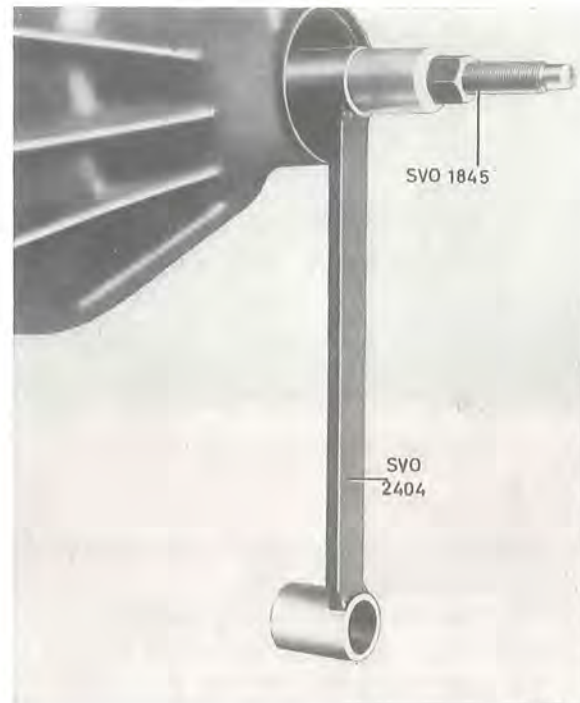

Fig. 4-157. Fitting the pinion
5. Insert the pinion in the casing and fit on three .75 mm (.03") thick shims and the front pinion bearing. Fit tool SVO 2404 and press tool SVO 1845 on the front end of the pinion end pull in the pinion, see Fig. 4-157. Apply the nut tightener until it must press the pinion forwards so that it does not strike against the bearing positions.